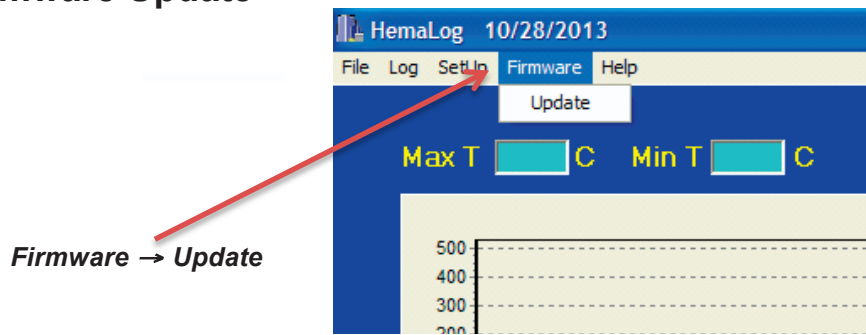

Figure 51. Firmware Update Dropdown Menu
- Once the new firmware file has been placed into the **C:/AX56_Log/Pgm** folder of the PC, press **Update** under the **Firmware** menu on the task bar of the HemaLog program to update the microprocessor's firmware. (See Figure 51.)